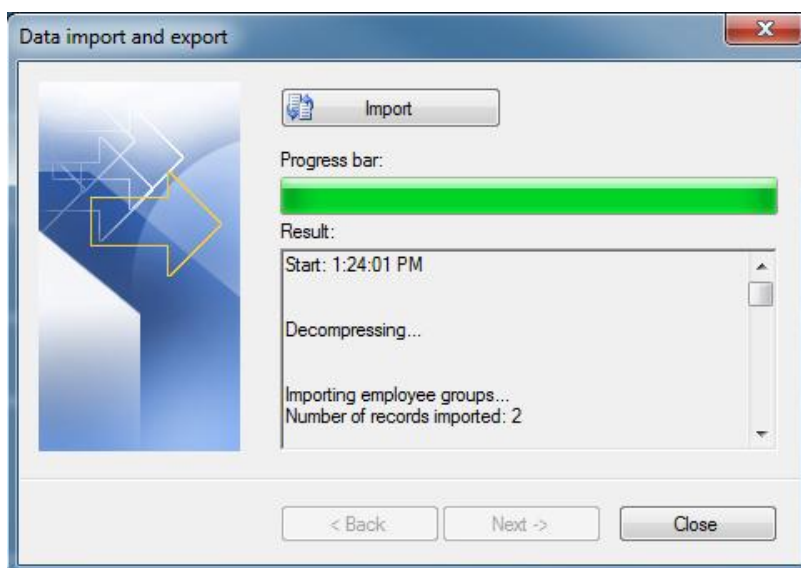

Figure 15. Import configuration data from the PR Master. Progress window
6. In the next wizard window click IMPORT button. The import process will start. During this process, the progress window is displayed (figure 15).